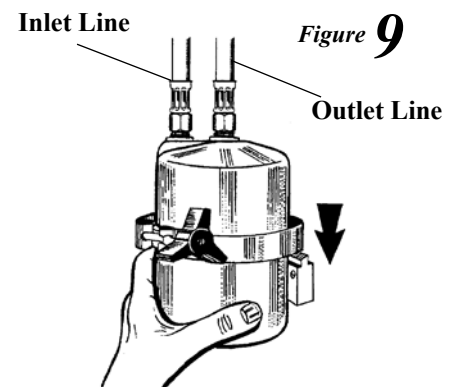

Figure 9
9. **Mount unit on the Residential Bracket** by placing the V-Clamp over the raised section on top of the Bracket (Fig. 9).